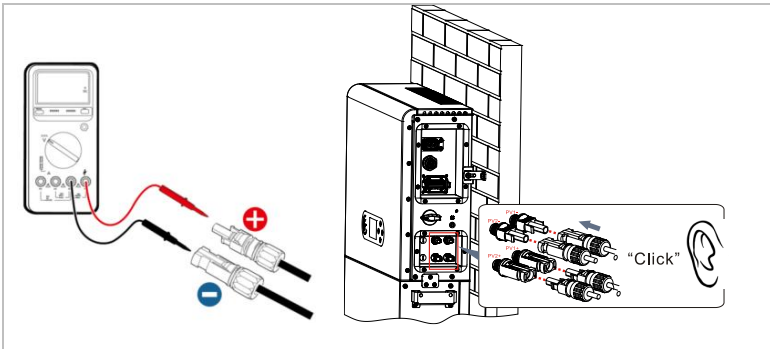

Figure 5-10 Connect PV connector
Step 3: Ensure that the DC voltage of each PV string is less than 600V and the polarity of PV cables are correct. Insert the positive and negative connectors into the corresponding PV region of the ESI series inverter until a click is heard. As the figure 5-10 showing.